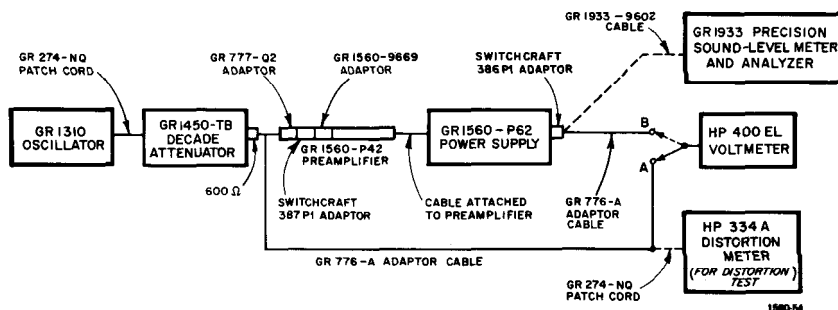

Figure 4-13. Test setup for minimum-performance checks.
**Gain Check (X1).** Make the setup shown in Figure 4-13. The 400 EL Voltmeter is to be connected alternately at the output of the 1450-TB Decade Attenuator (connection A in the diagram) and the output of the 1560-P62 Power Supply (connection B).
**Gain Check (X10).** Change the above settings of Figure 4-13 as follows:
**Frequency Check.** Using either the HP 400 EL Voltmeter or the Ballantine 316 Voltmeter in the setup of Figure 4-13, make the frequency measurements indicated in Table 4-5. In each case, perform step A with the voltmeter at Point A, then step B, voltmeter at point B.
**Noise Check.** In the setup of Figure 4-13, connect the 400 EL Voltmeter to point A and the 1933 Sound-Level Meter to point B (the output from the 1560-P62 Power Supply). The procedure is given below.
**Distortion Check.** Make the setup of Figure 4-13. Connect the 334A Distortion Meter to point B. Replace 1310 with 1309 oscillator.